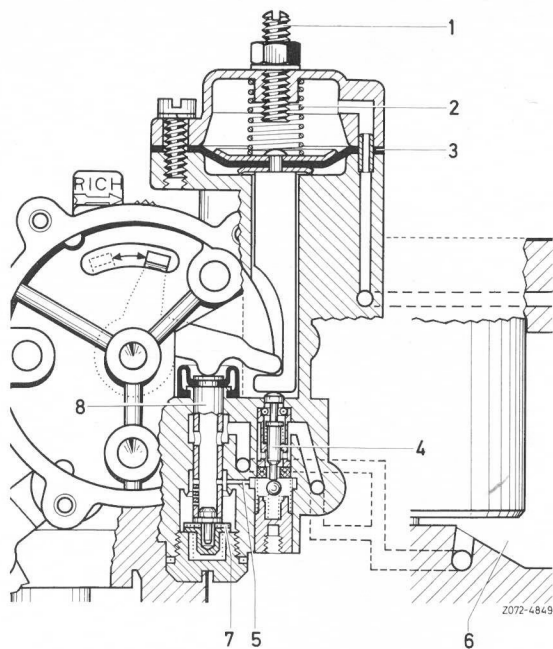

Fig. 16
To improve starting characteristics during the warming-up period, the starter housing has been additionally provided with a starting mixture enrichment valve (4 in Fig. 16 and 17).
At full throttle position of accelerator pedal in combination with a low engine speed, for example vehicle with automatic transmission on steep garage exit, the vacuum above diaphragm (3) may very well drop to the extent that the restoring forces of the diaphragm spring (2) and the bimetallic spring will push the diaphragm rod completely down (Fig. 16).
The starting valve (8) is also pushed upwards by the compression spring of the valve disc (7) to the extent that only the lowest starting valve bore and the starting mixture enrichment valve are effective (Fig. 16).